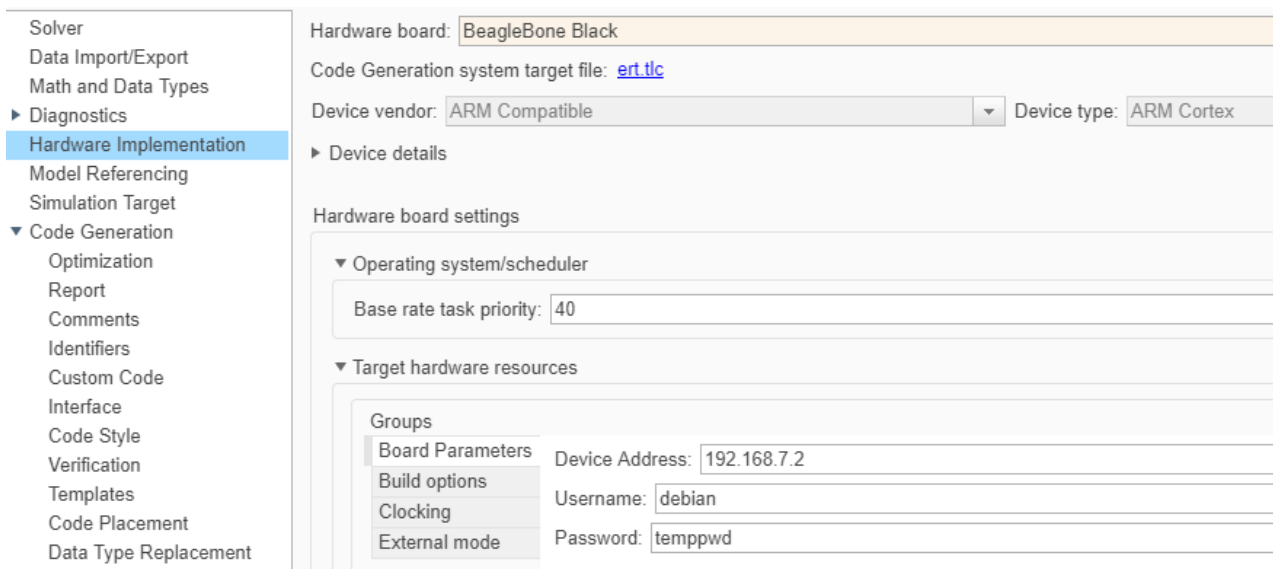

Figure 13 - Hardware implementation configuration
- 1) In the “Modeling” menu push “Model Settings” and in the “Hardware Implementation” item configure as shown in the Figure 13.